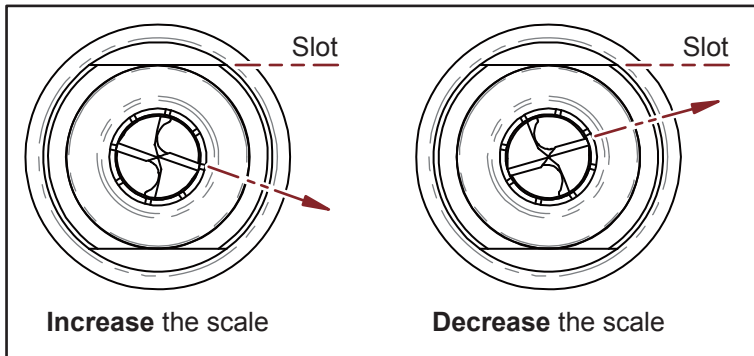

Fig. 4-9
- ✘ If the drill's cutting edge is not parallel to the slot of clamping nut, adjust the scale and reposition the drill. (Fig. 4-9)